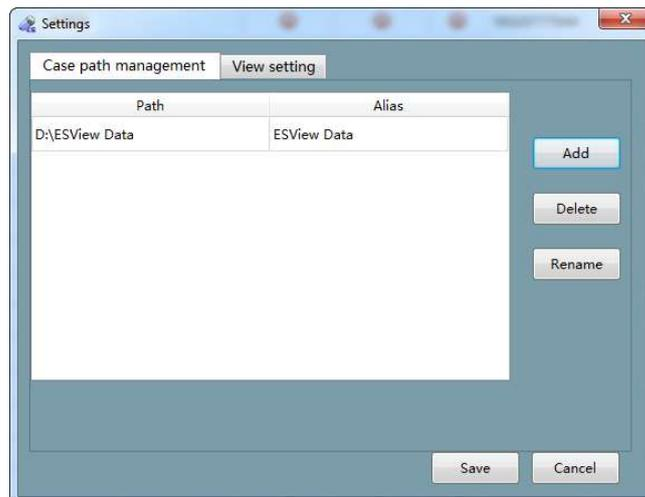
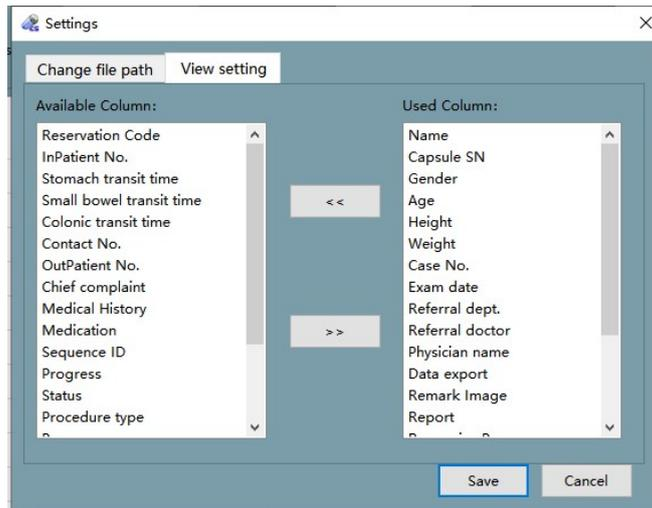

Figure 4-61: Add Case Data Storage Path Interface
Figure 4-62: View Setting Interface
2. Click  to access the add case data storage path interface (Figure 4-61). Click “Add”, “Delete”, or “Rename” button to add, delete, or rename the case data storage path. Click “Save” to save changes in settings or click “Cancel” to cancel changes.
- The software automatically searches two levels of directory under the case data storage path and displays the patient information found in the case list. In the add case data storage path interface (Figure 4-61) click “View setting” to access the view setting interface (Figure 4-62). Drag the mouse or click the “<<” or “>>” buttons to select the data fields to be displayed. The date fields in the “Available Column” box will not be shown in the case management interface, while the data fields in the “Used Column” box will be displayed.